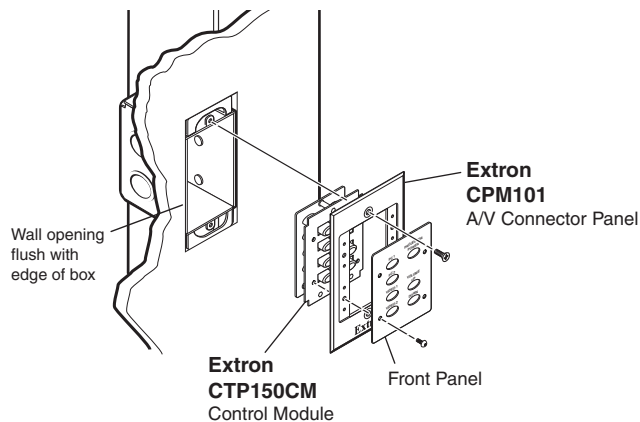

Figure 2-5 — Attaching the mini-AAP panel to a wall box
1. Sandwich the mini-AAP panel (such as a CPM101) between the body of the remote control panel and the printed front panel. Secure the front panel to the remote control panel body with the included #4-40 screws (figure 2-5).
3. Mount the CPM101 or other mini-AAP panel (with the attached remote control panel) to the wall box or mounting bracket using the two included mounting screws (figure 2-5).
NOTE Figure 2-5 shows a wall box installation. Mounting the mini-AAP panel to a mounting bracket is identical.